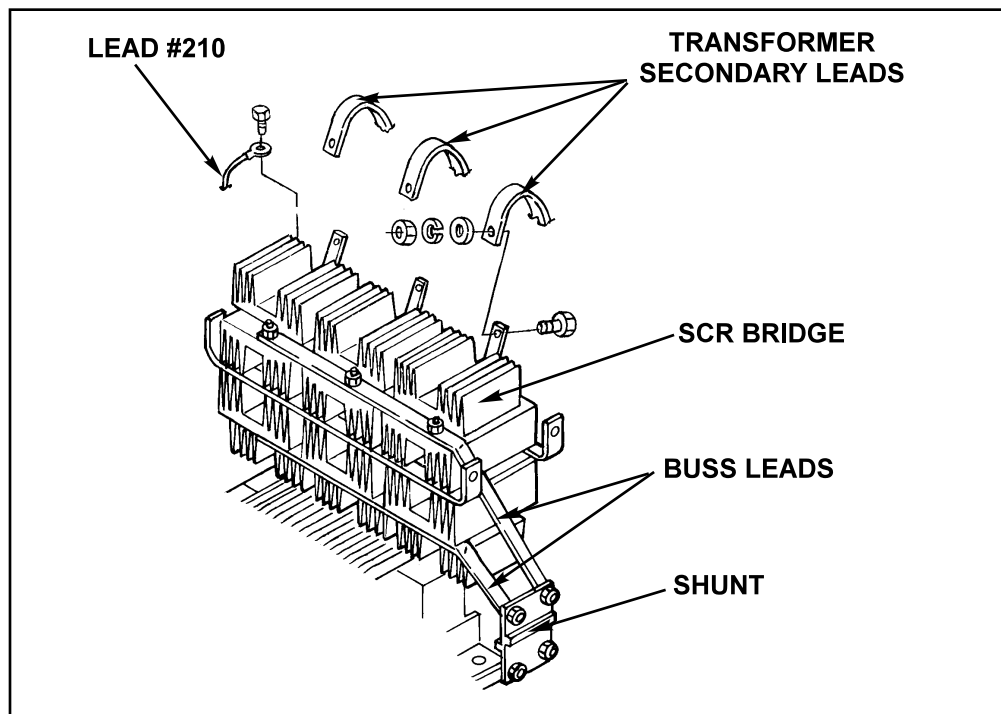

FIGURE F.22 - Preparation For SCR Output Bridge Removal
5. Using a 9/16" socket and open-end wrench, remove the two bolts and nuts holding the shunt assembly to the two positive buss leads connected to the SCR bridge. See Figure F.22.
7. Identify and label the six transformer secondary (heavy aluminum) leads that connect to the anodes of the SCR heat sink assemblies. Using a 1/2" socket and open-end wrench, remove the secondary leads (see Figure F.22).